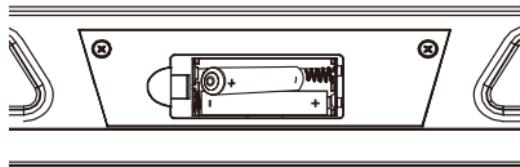

Fig.2
### Battery installation (Fig. 2)
1. Open the battery cover, located in the middle of the back of the level (Fig.2).